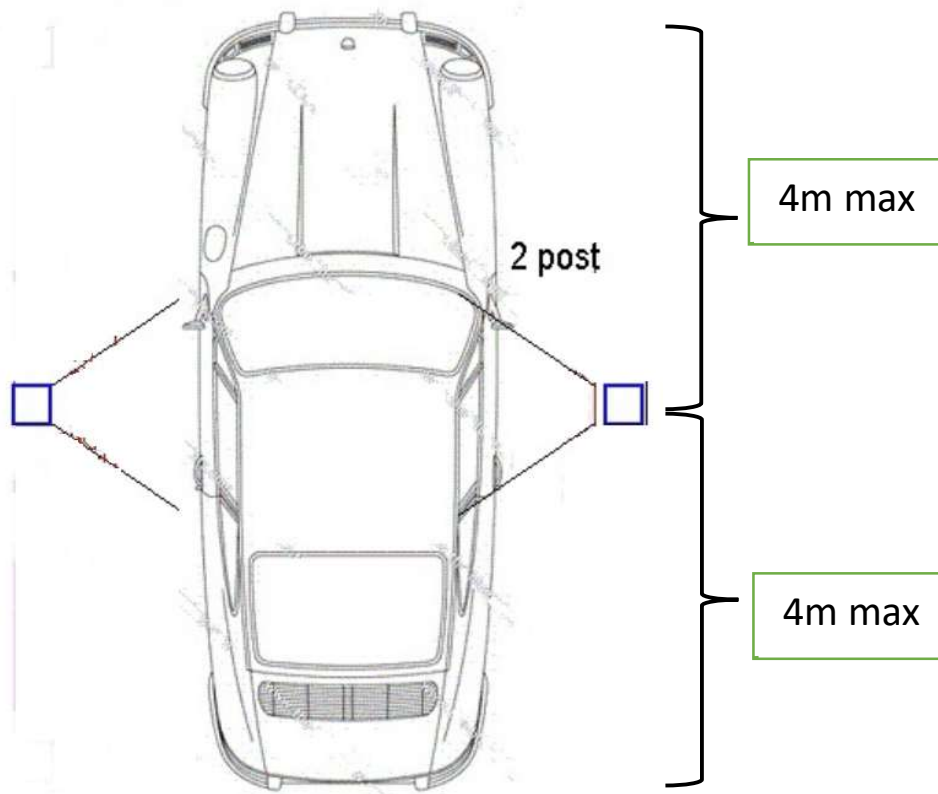

Figure 11
- The front and back of the lift should be reserved with sufficient space to accommodate all the vehicles (Fig. 11).